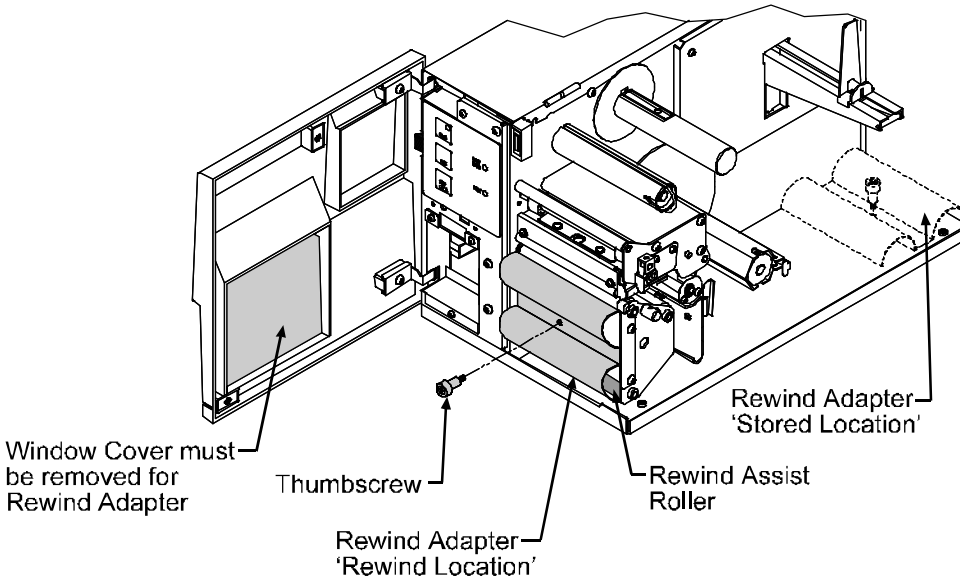

Figure 1-9 Attaching the Rewind Adapter
2. Fasten the rewind adapter to the front of the Printer as shown in Figure 1-9.